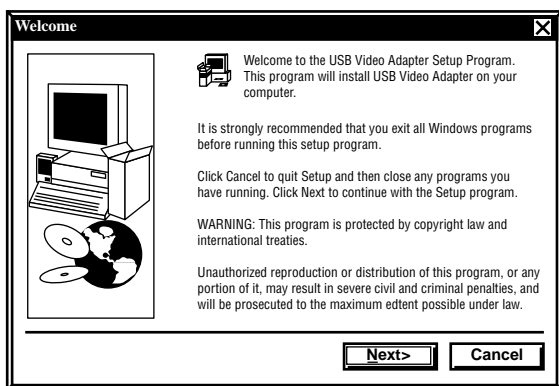

Figure 5-1. Welcome screen.
4. The Welcome screen shown in **Figure 5-1** appears. Click **Next**.